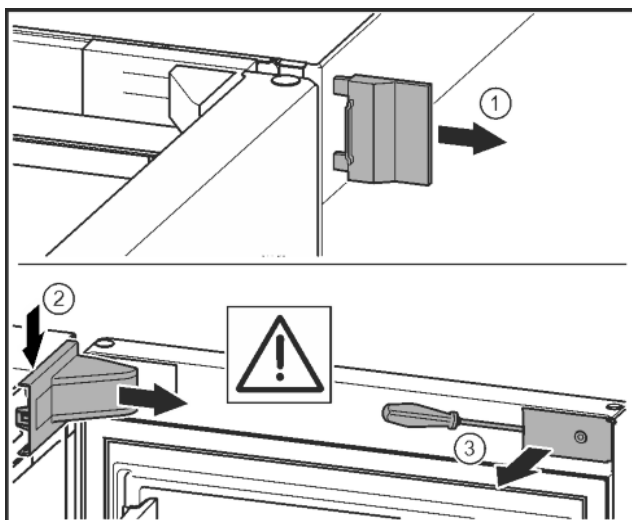

Fig. 10
- ▶ Remove the outer cover. Fig. 10 (1)
- ▶ Disengage and release the bearing bracket cover. Remove the bearing bracket cover. Fig. 10 (2)
- ▶ Unlatch the panel with a slotted screwdriver and swivel it to one side. Fig. 10 (3)